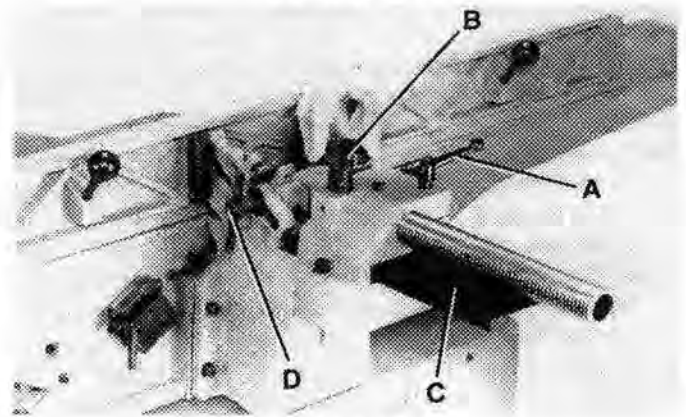
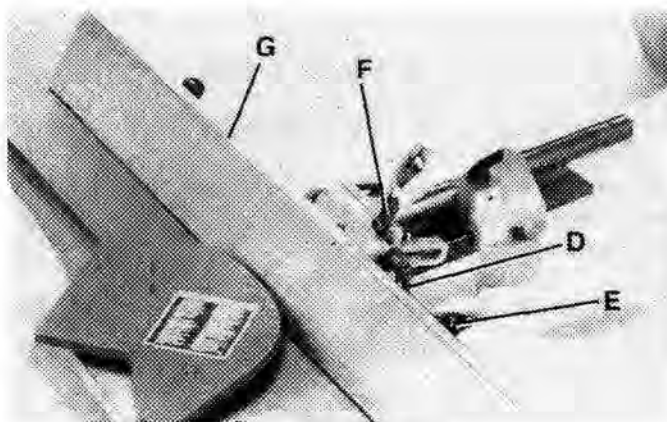
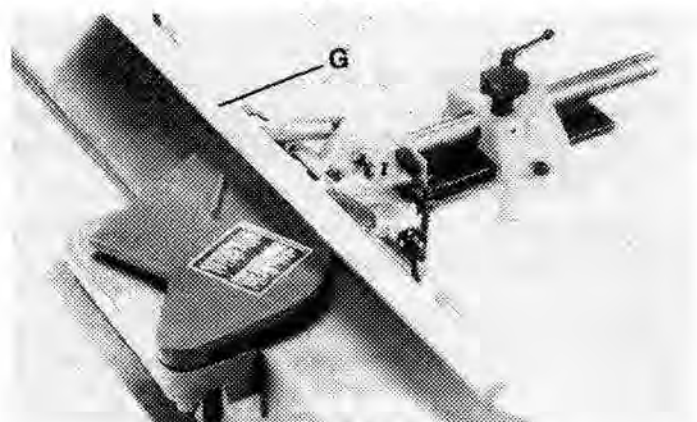

FIGURE 34
FIGURE 35
FIGURE 36
1. To move the fence across the table, loosen locking handle (A) Fig. 34, and turn knob (B) accordingly until the fence is in the desired position; tighten locking handle (A). As the fence is moved across the table, the rear cutterhead guard (C) Fig. 34, extends over the knives in back of the fence for operator safety.
2. To tilt the fence in or out, loose locking handle (D) Fig. 34. While holding fence tilting handle (E) Fig. 35, rotate flip stop (F) and tilt the fence in or out to the desired angle and tighten locking handle (D). **IMPORTANT:** When cutting bevels and the angle is small, there is little difference whether the fence is tilted in or out; however, at angles approaching 45°, it may become difficult to hold the work securely against the fence when it is tilted outward. In this case, we suggest that the fence (G) be tilted toward the table, as shown in Fig. 36. The fence will form a V-shape with the table, and the work is easily pressed into the pocket while passing across the knives.